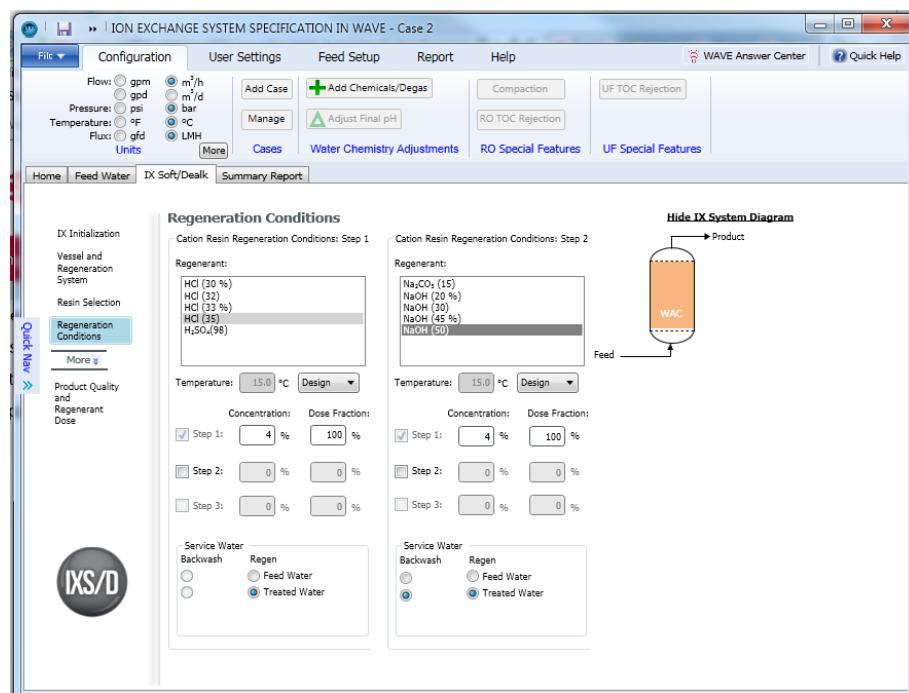

Figure 173. Regeneration Conditions for Brackish Softening with a WAC (H/Na)
- When required (i.e., Brackish Softening with a WAC), WAVE will display the options for Step 1 (regeneration with acid) and Step 2 (resin conversion to Na form), as shown in Figure 173.